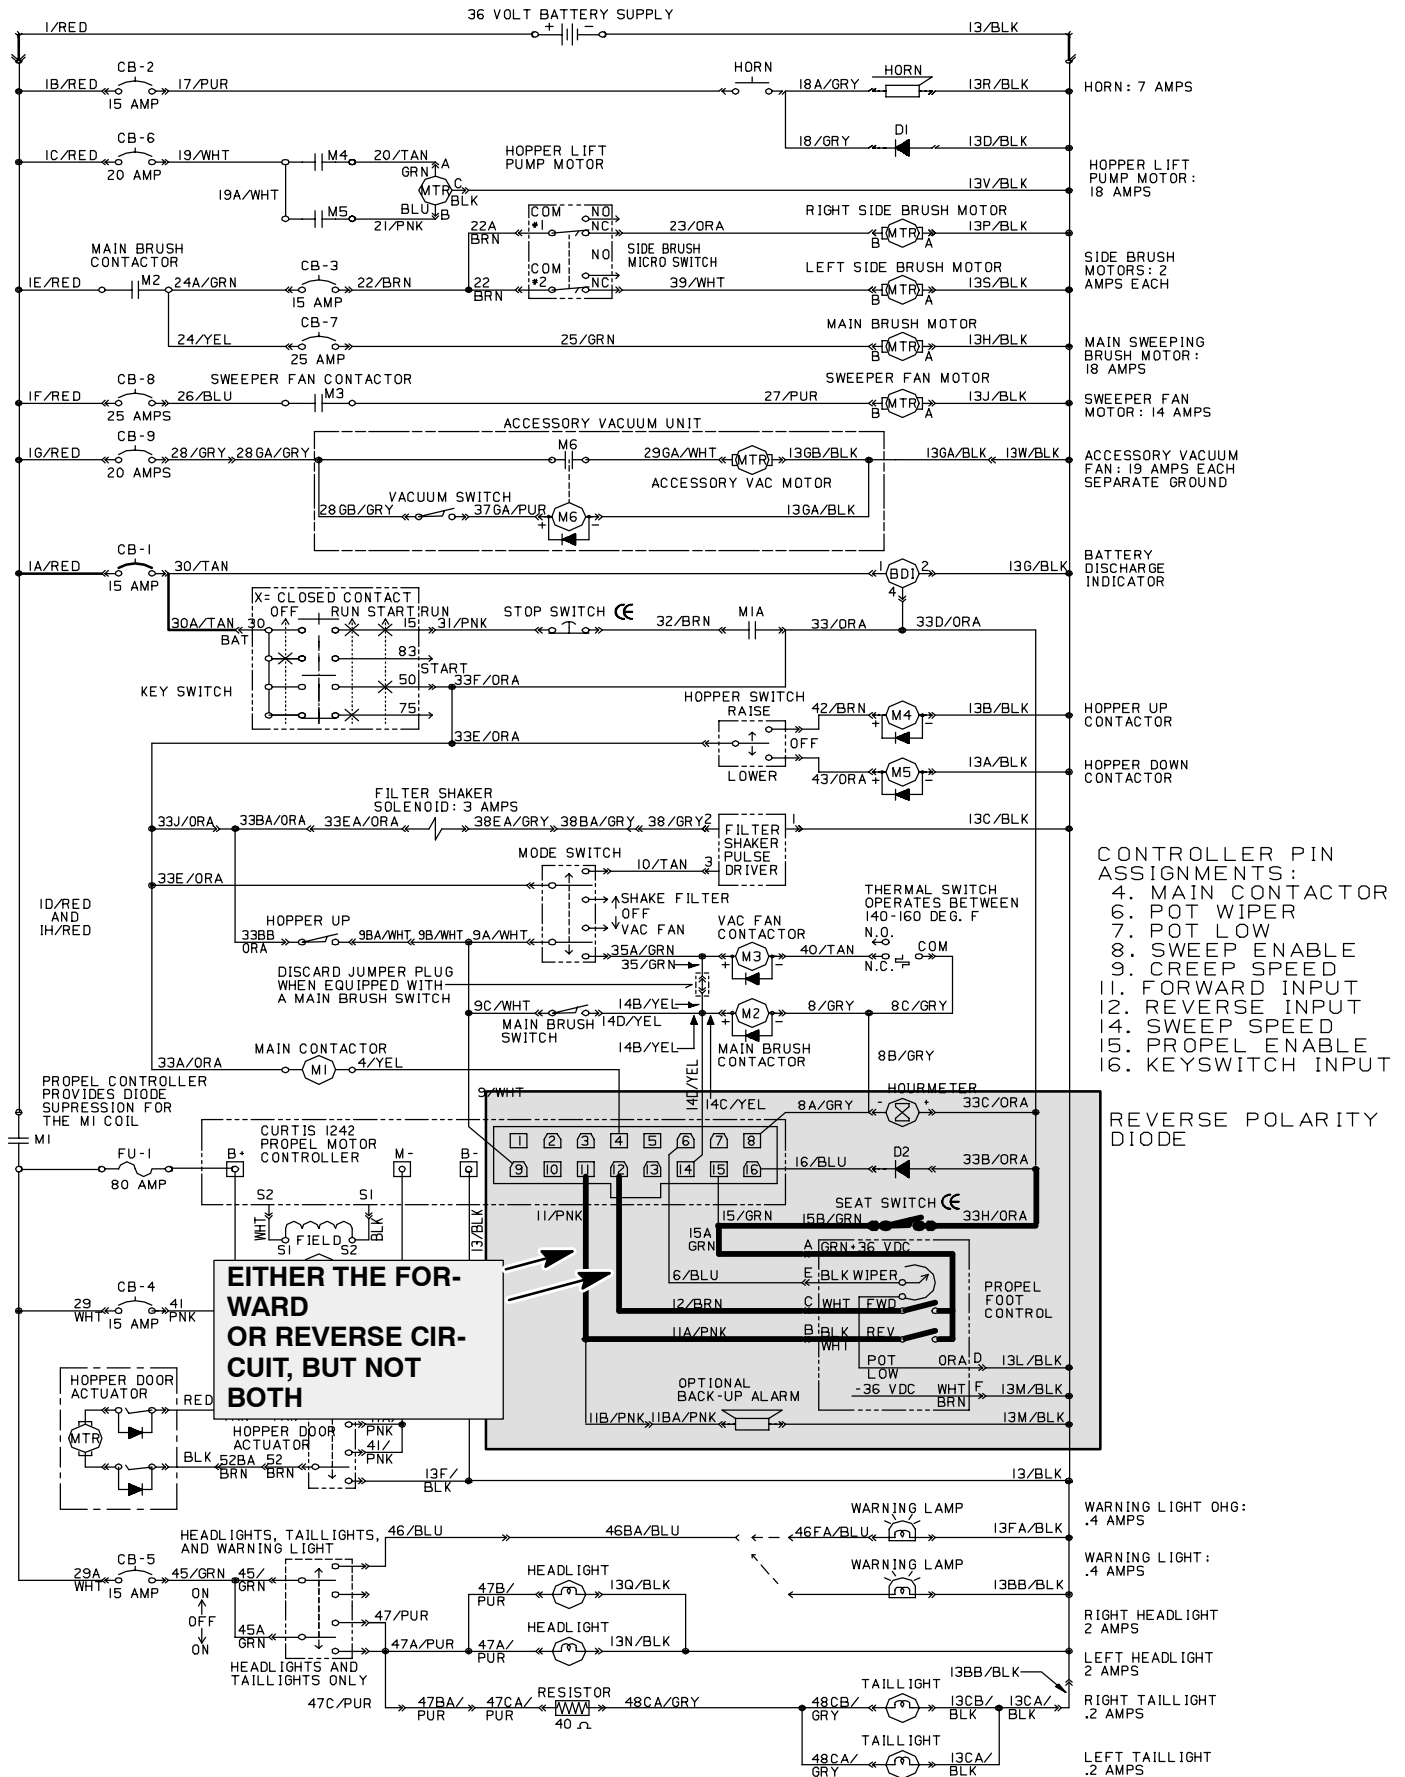

Fig 5
2. Direction input signal. (see Fig. 5)